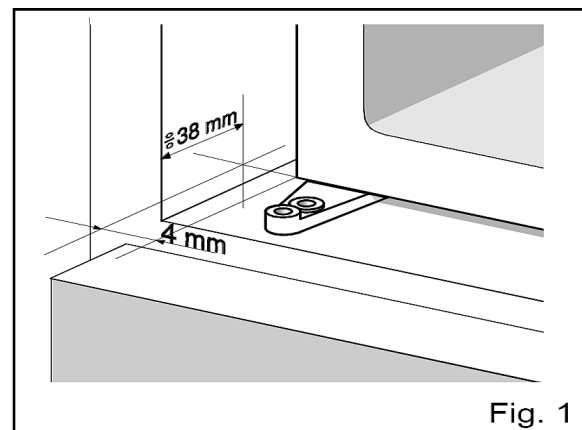

Fig. 1
- 1) Push the appliance into the kitchen unit's space and allow at least 4mm free space on both sides between the appliance and the side walls of the kitchen unit (see Fig.1, at right) and 38mm between the back of the appliance & the wall at the back of unit.